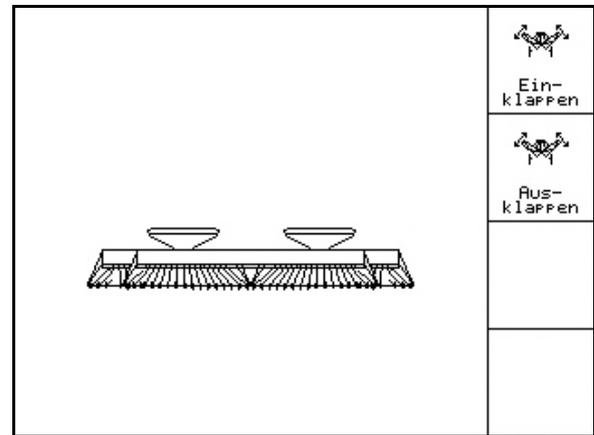

Fig. 63
-  Change to Folding submenu (Fig. 63).